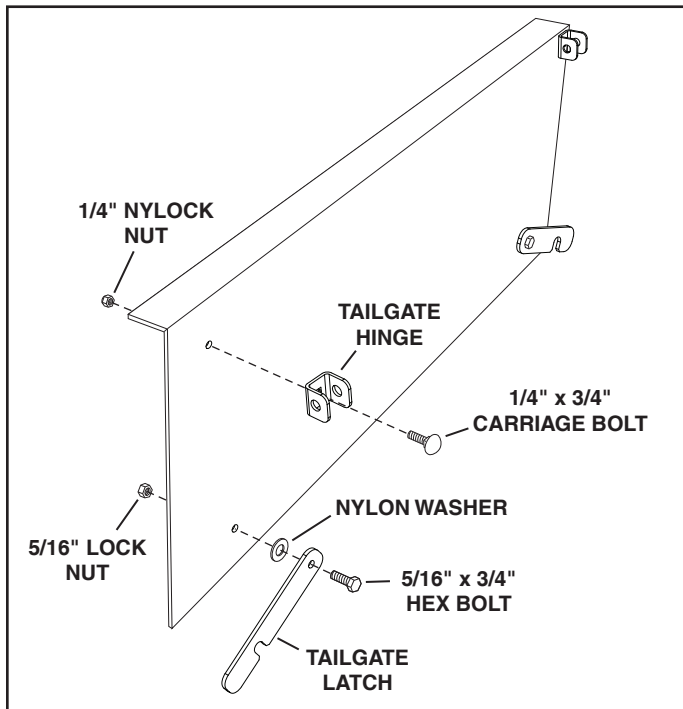

FIGURE 4
- Attach two tailgate hinges to the top holes in the tailgate using two 1/4" x 3/4" carriage bolts and 1/4" nylock nuts. See figure 4.
- Attach the two tailgate latches to the bottom holes in the tailgate using two 5/16" x 3/4" hex bolts, nylon washers and 5/16" lock nuts. See figure 4.